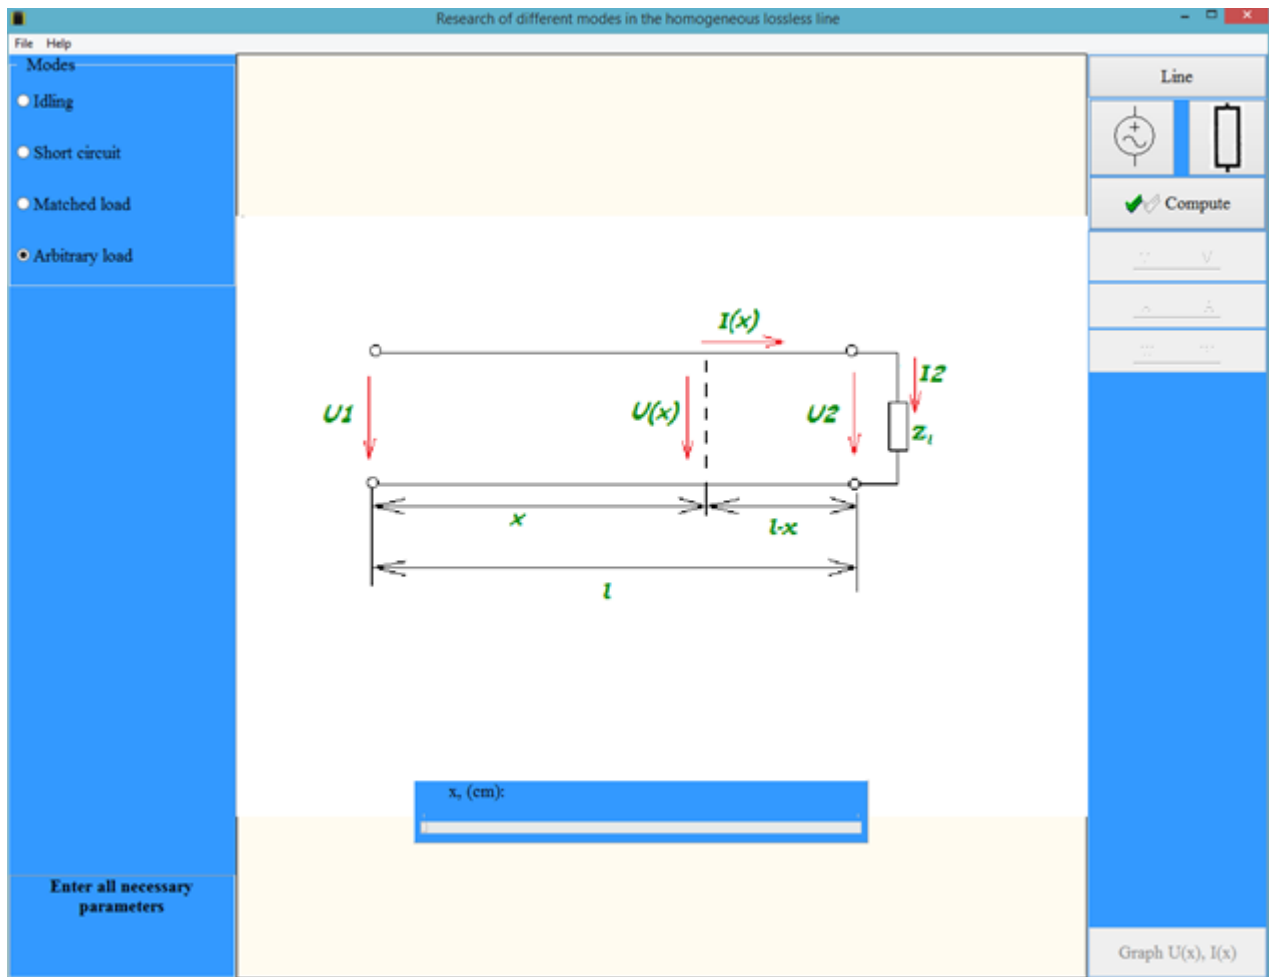

Figure 7.3 – Main window of the program in loading mode
1. We choose the operating mode of the line, for example, "Load mode". In the working area of the main window, a two-wire line diagram appears in the preset mode, all control buttons become active (figure 7.3).